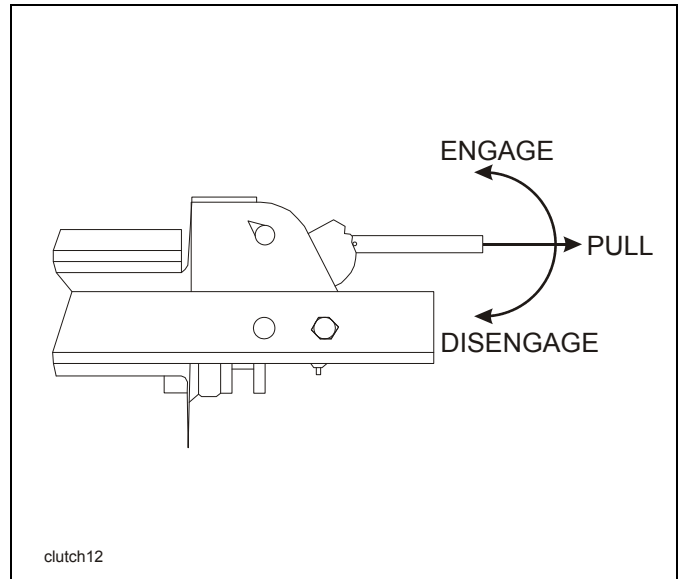

Figure 3-8: 12,000# Winch Manual Clutch
1. The WINCH CLUTCH HANDLE (See **Figures 3-8 and 3-9**) is located on the right or curb-side end of the winch assembly.